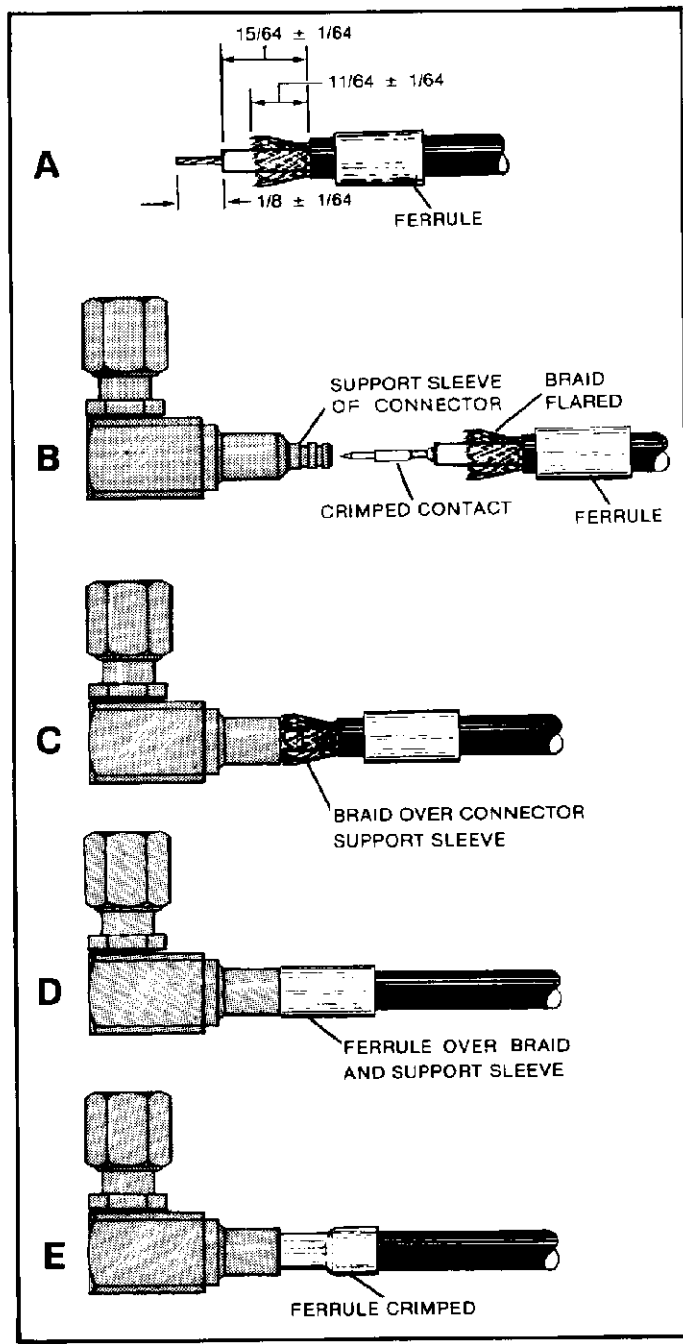
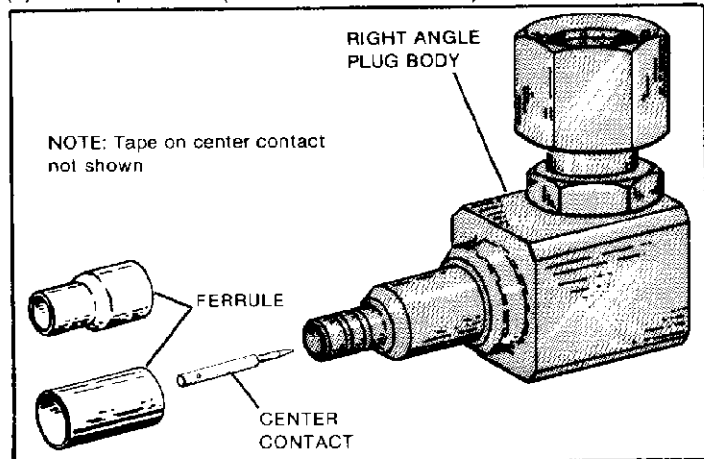

Figure 3
Figure 2
Figure 2 shows a typical COAXICON series SMC connector assembly. Detailed crimping instructions are packaged with the crimping tools and dies. Refer to Figure 3 and steps below for assembly procedure.
2. CONNECTOR ASSEMBLY (Figure 3)
- (a) Slide ferrule onto cable and strip cable to dimensions shown. (Note orientation of stepped ferrule in Figure 2.) Flare braid.